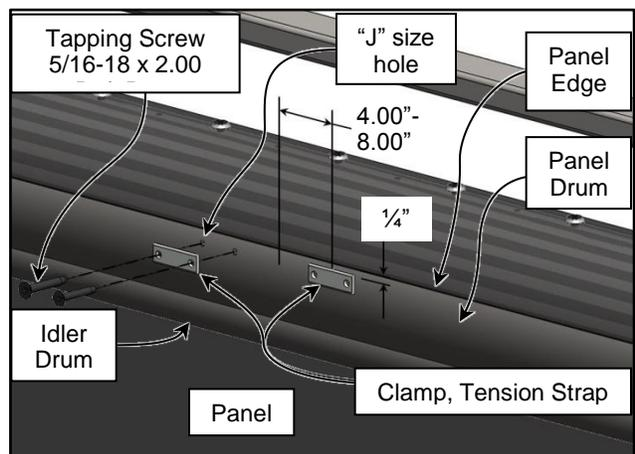

Figure 52
2. Place a Windbar Strap Clamp directly against the panel drum just below the door panel edge (about  $\frac{1}{4}$ " ) as shown on either side of the drum center. Center the (2) strap clamps 4" on either side of the drum's center. If the clamp centers are the same distance as an existing panel mounting screw, each clamp must be moved out from the drum's center an additional 4". The Windbar Strap Clamps must straddle the panel mounting screws as shown. (See Figure 52)
4. Using a "J" size drill bit, finish drill (4) true and perpendicular "J" size ( $\text{Ø}.277$ " ) holes for the strap clamps fasteners. (See Figure 52)
9. If both front and rear windbars are used, install the front as shown. The rear windbar straps must be installed between the next set of Panel-Drum Mounting Fasteners out from the drum center. (See Figures 52 and 53)